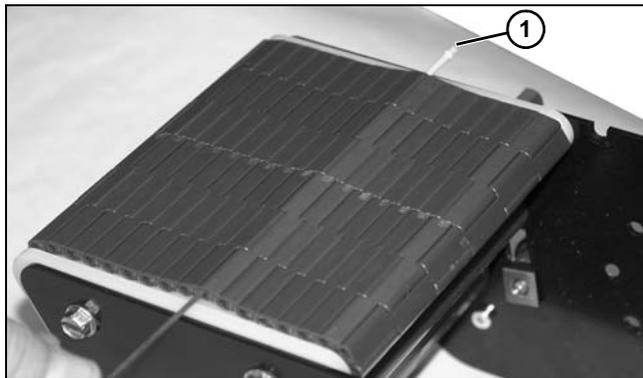

Figure 139
7. Bring ends of belt together and install pin (Figure 139, item 1).